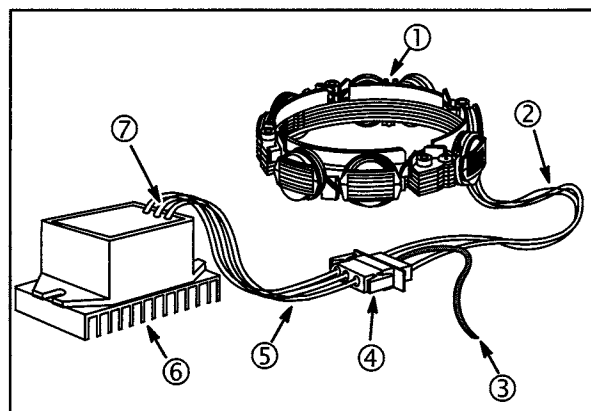

Fig. 30
1. Stator assembly (1), Fig. 30.
2. Two YELLOW leads (2) from stator.
3. RED DC output lead (3) from connector.
4. Connector (4).
5. Two YELLOW AC input leads (5).
6. Regulator-rectifier (6).
7. RED DC output lead (7) to connector
**NOTE:** Stator (1), regulator-rectifier (6) and fly-wheel are **NOT INTERCHANGEABLE** with any other charging system.